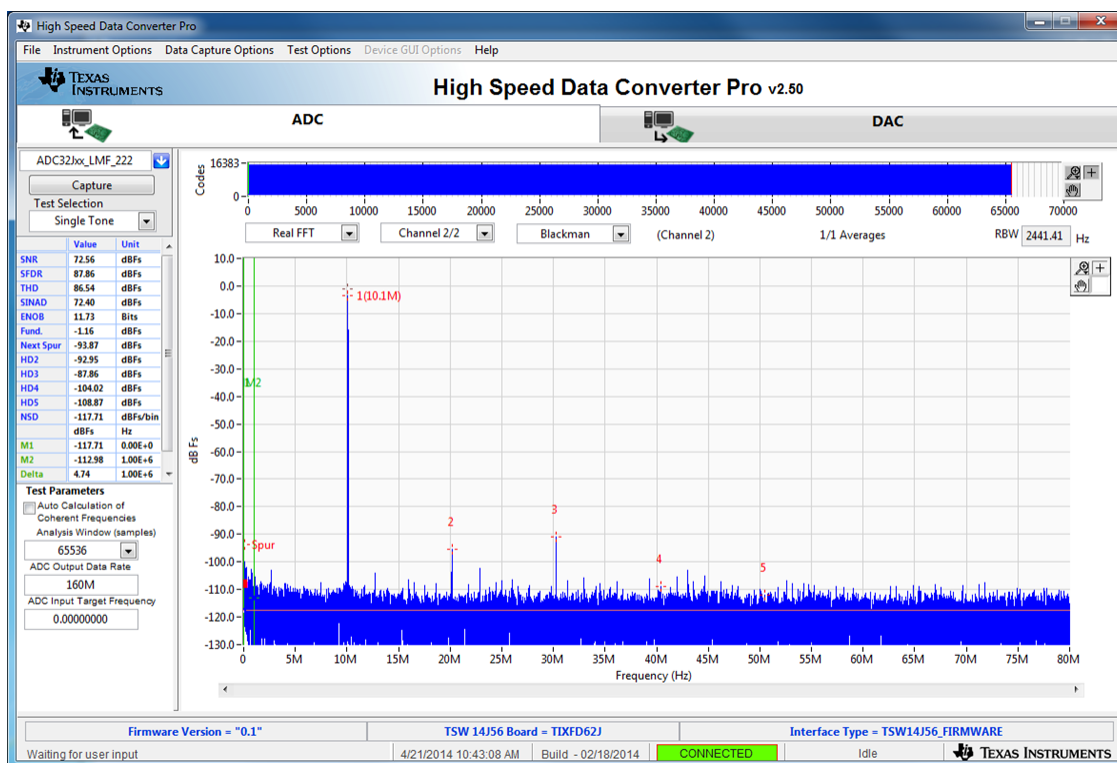

Figure 18. ADC32Jxx Operating in 14-Bit Mode at 160 Msp/s with 10-MHz Input Signal
- Select the number of sample points (and resulting number of FFT bins) to be used. The example shown in Figure 18 has 65536 samples.